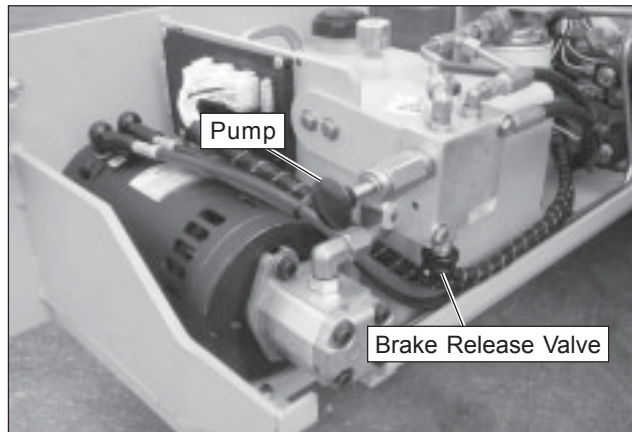

Figure 10.4 – Hydraulic Tray
7. The brake release pump is located on the brake release valve (refer to Figure 10.4). Push and release the knob several times to release the brakes.